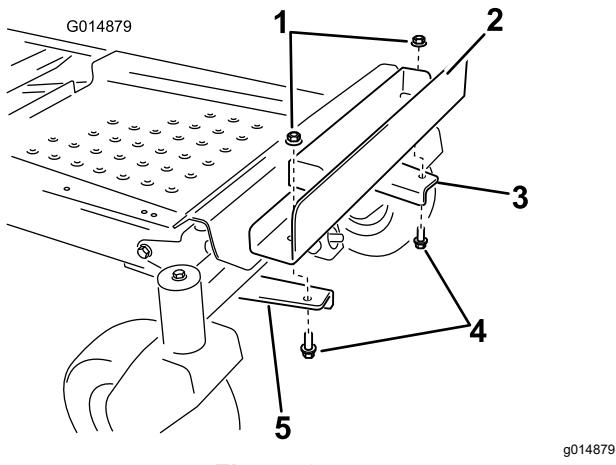

Figure 8
- Install the weight bracket to the mounting brackets by aligning the outboard holes in the bracket with the mounting brackets installed previously (Figure 8).
- Secure the weight bracket with 2 bolts (3/8 x 1 inch) and 2 locknuts (3/8 inch) (Figure 8).